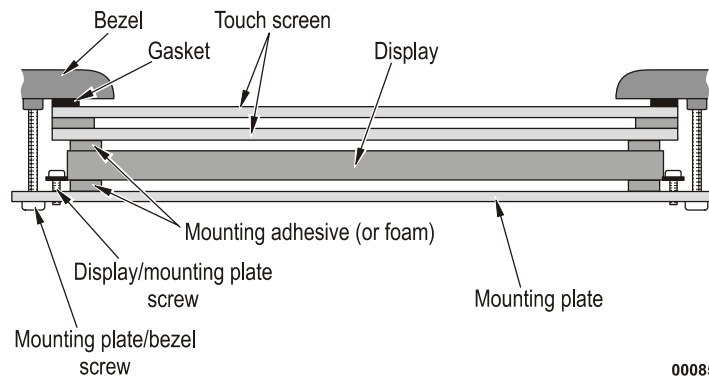

Figure 13: Example of rear mounting a touch screen with a mounting plate
2. Align and adhere the touch screen to the display by using mounting adhesive (see Figure 13).